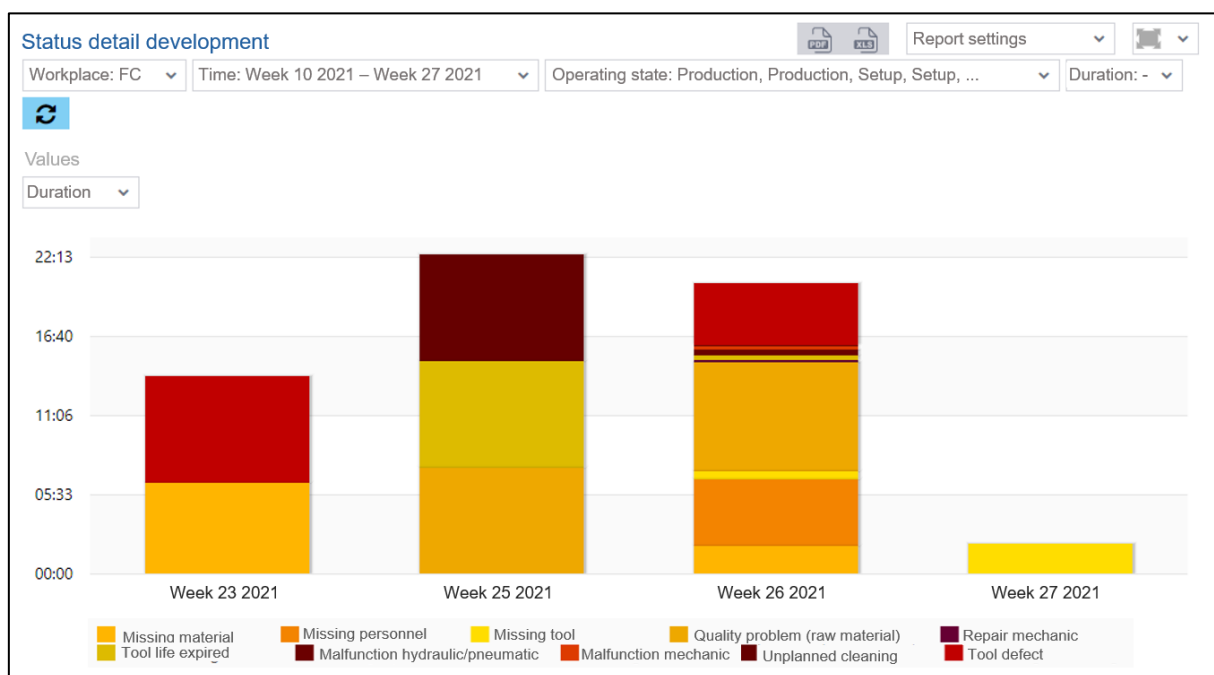

Fig. 165: Status detail development as a column chart
- Status detail development as a column chart (fig. 165):